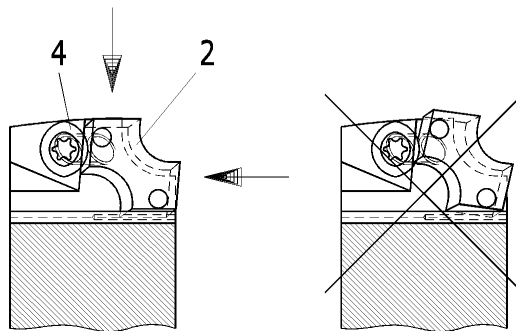

Fig. 2
7. Push slightly the knife against the knife seat and the stop screw (4) ; (see Fig. 2).